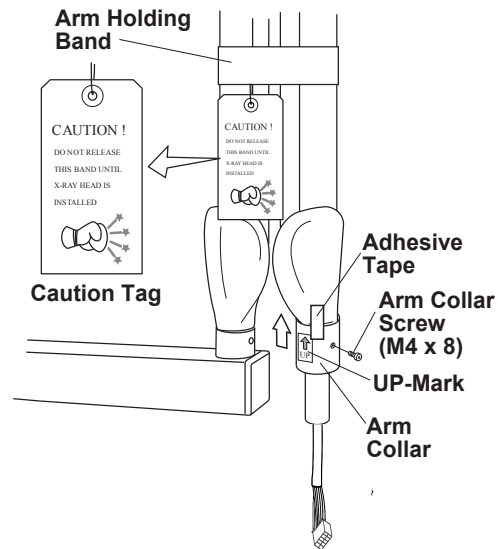

Fig.3-19 Setting Arm Collar on Balance Arm
1. Remove the arm collar screw (M4 x 8mm) from the arm collar. Slide the arm collar upward and temporarily hold it in position with adhesive tape. (Fig.3-19)